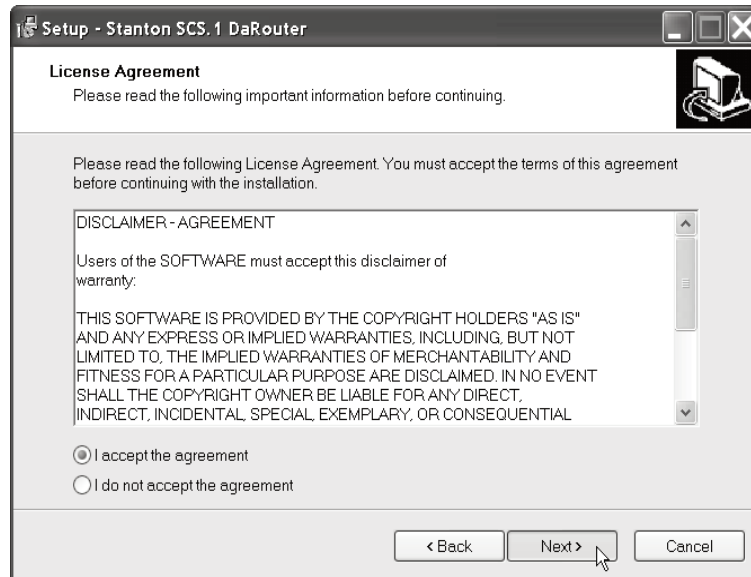

Figure 4.7
7. We are almost ready to complete the Stanton 1394 ASIO Driver Setup installation. Click **Next**. (Figure 4.7)